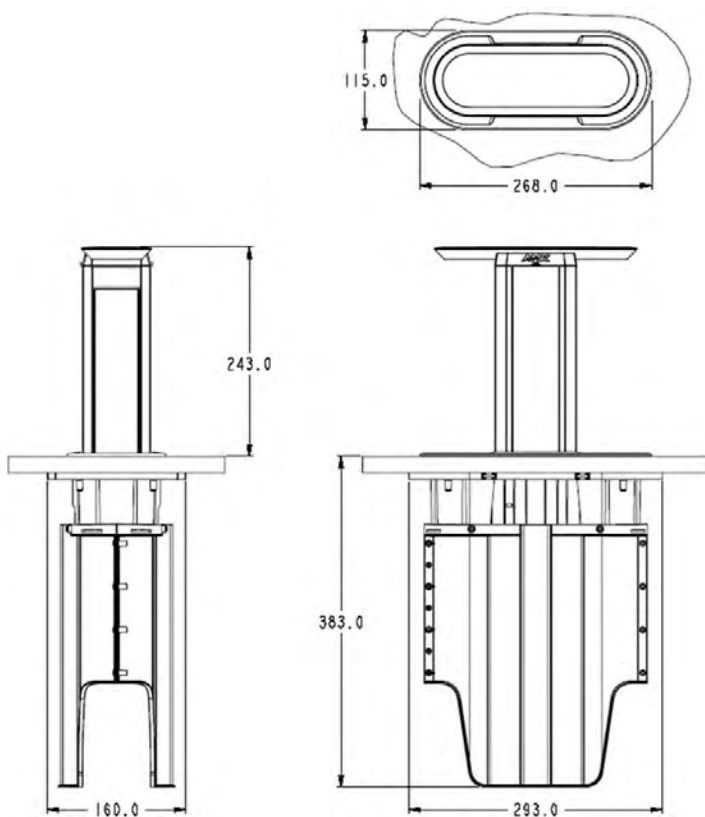

FIG. 2 Hydraport System Space Requirements
Note the space requirements for installing the system (FIG. 2).
- Note that the Hydraport system requires at least the following amount of space below the mounting surface to install (see FIG. 2):